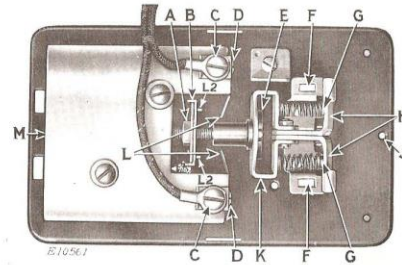
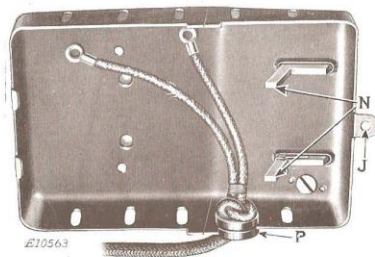

FIG. 11. EMERGENCY ADJUSTMENT OF CARBON CONTROLLER
FIG. 12. VIEW OF INSIDE OF CONTROLLER COVER
Operate the pedal of the foot controller to make sure that the mechanism does not bind. Remove the cover from the controller unit as instructed in paragraph 3, page 13, and inspect the wires and connections at (C, Fig. 11).
(SEE FIG. 11)
Take out the screw at (J, Figs. 11 and 12) and remove foot controller cover, by gently lifting up, and pushing it toward the rear.
(a)—With the bell crank (H, Fig. 11) at the "off" position against the posts (G) of the spring bracket, the face of the bakelite strip, between nut (A) and cross slide (B), should be $\frac{1}{8}$ inch from the flat face of the porcelain as shown by Fig. 11. If the distance is not $\frac{1}{8}$ inch, release the insulated nut (E) from its seat by pushing on the end of the pull rod at (M) and turn the nut (E) until the correct adjustment is obtained. Be sure that the nut (E) seats in the yoke (K).
Fig. 12) and insert them through the two slots (F, Fig. 11) in the spring bracket. Also put the bushing (P, Fig. 12) in place in the cut-out in the side of the foot controller cover, as shown by Fig. 12.
When the cover is properly in place, insert and tighten screw at (J, Figs. 11 and 12).